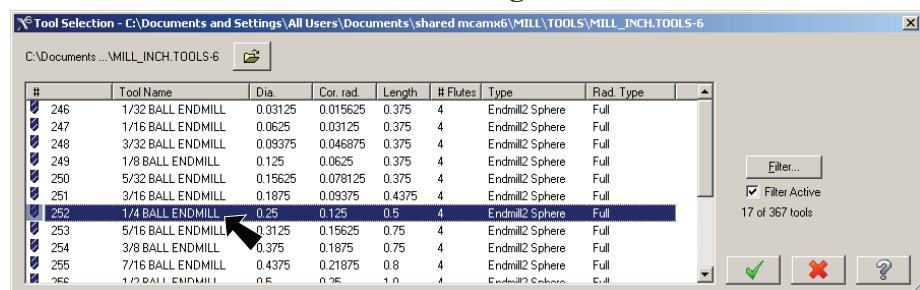

Fig. 13
Step 15. Click **252 Ball Endmill 1/4**, **Fig. 13** and click OK.